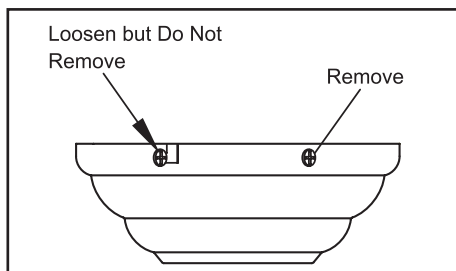

Figure 6
2. Remove the mounting plate from the canopy by loosening the four screws on the top of the canopy. Remove the two non-slotted screws and loosen the slotted screws. This will enable you to remove the mounting plate (Figure 6).